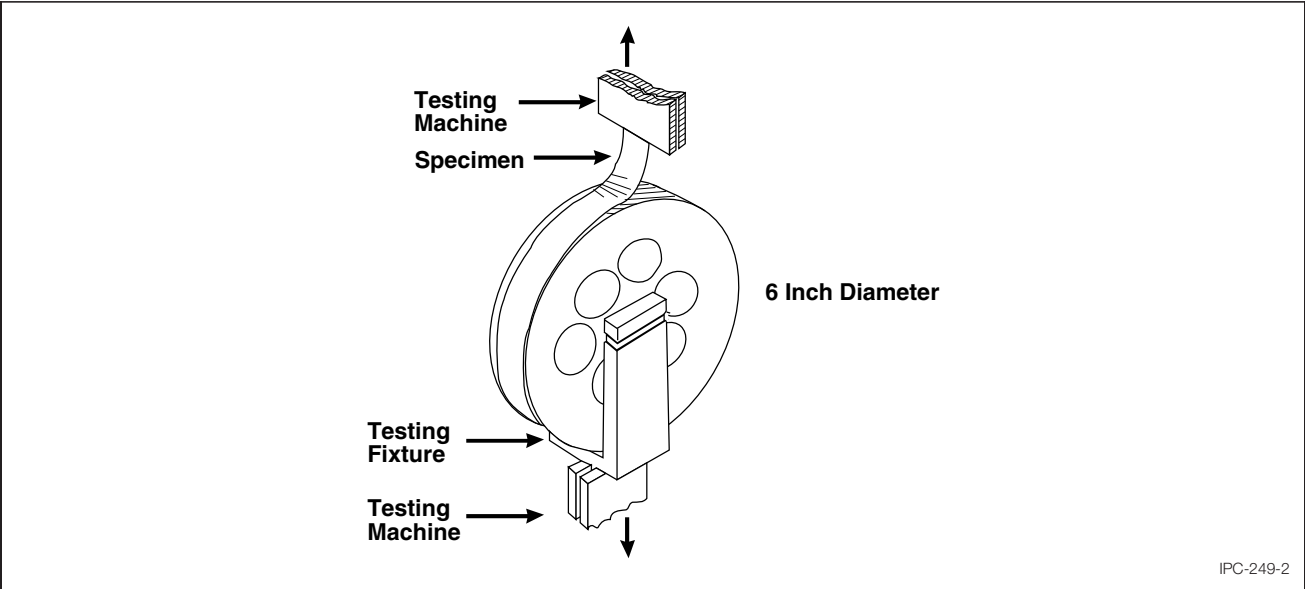
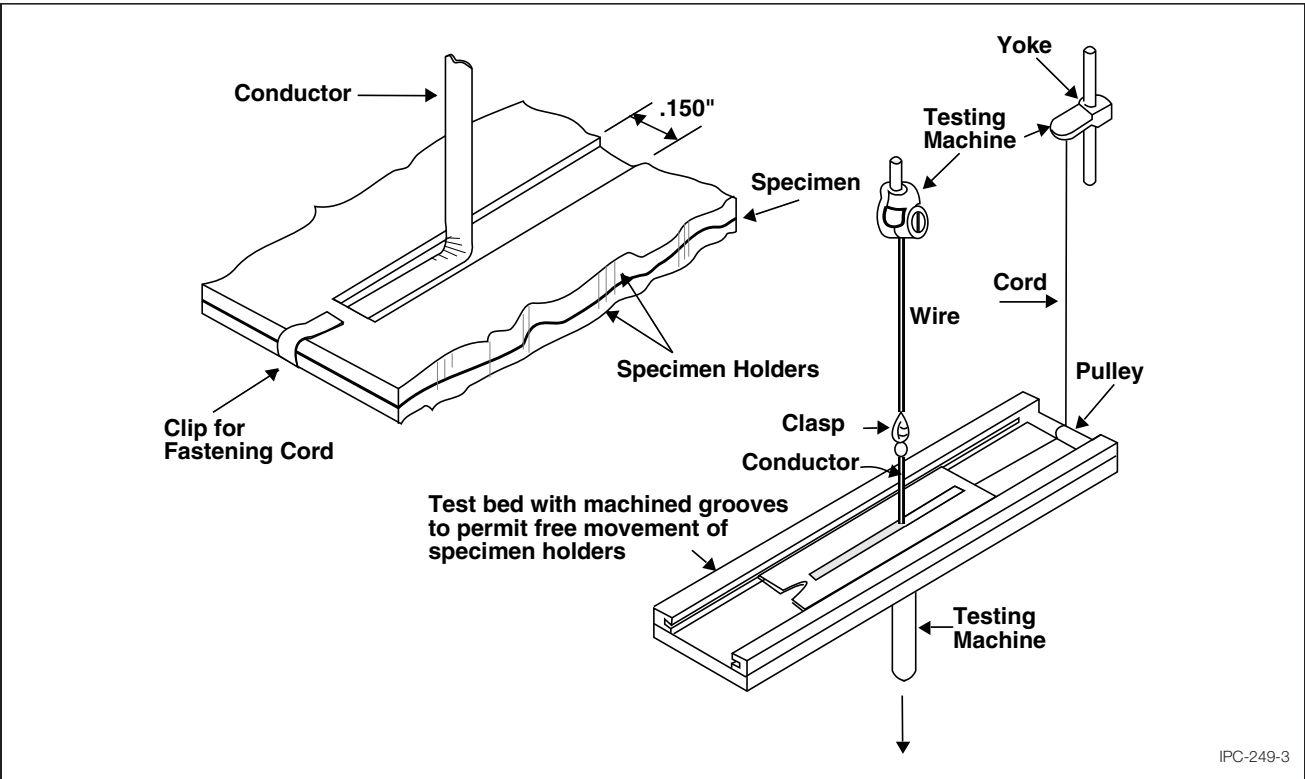

Figure 2 Free Wheeling Rotary Drum Test Fixture
Figure 3 Sliding Plate Test Fixture
4.3 Test Fixture Free wheeling rotary drum (Figure 2), sliding plate (Figure 3), or equivalent. The referee fixture will be a 152.4 mm [6.0 in] diameter free wheeling rotary drum.